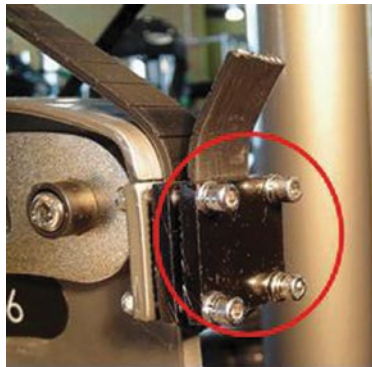

Figure 1
- ▶ For belting with the “fold over” clamp (Figure 1).